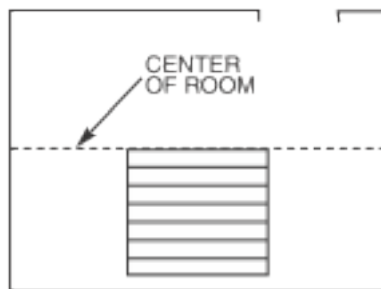

Fig. 1 Dry layout to determine width of border plank.
- Determine which direction the planks will run. Find the center of each of the end walls (the walls perpendicular to the long dimension of the planks) and place a pencil mark on the floor. Connect these points by striking a chalk line down the center of the room (Fig. 1). Do a dry layout of planks from the center line to the wall running parallel to the long direction of the planks to determine the width of the last row of planks (Fig. 1).